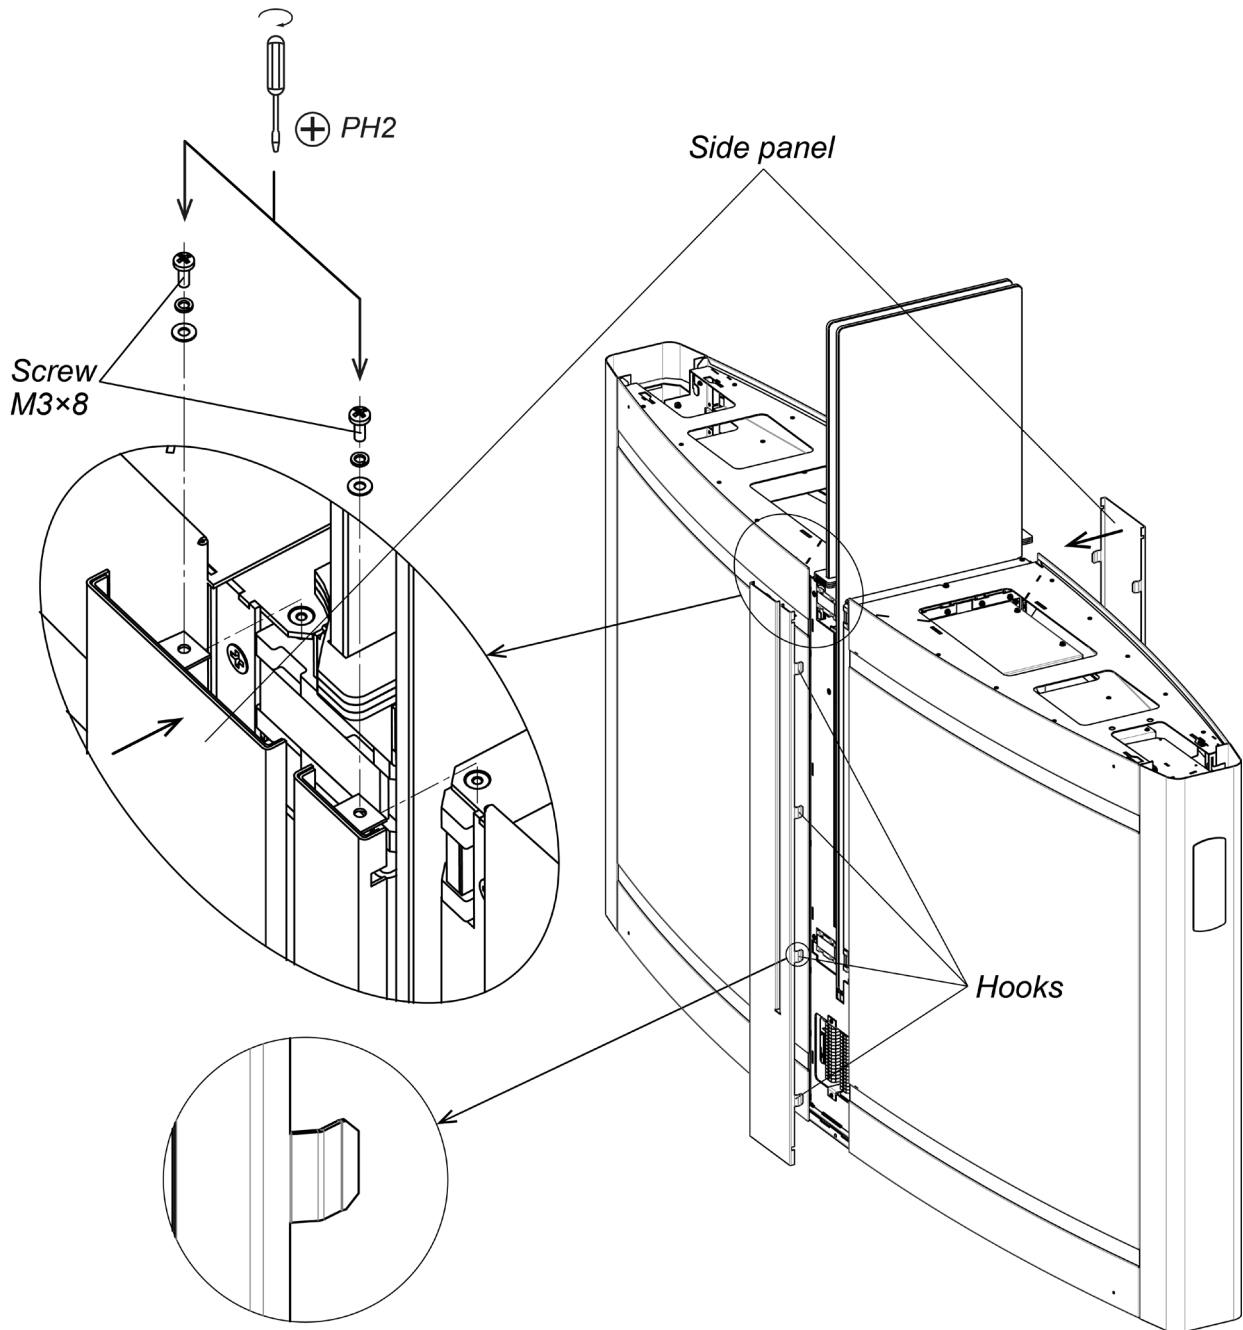

Figure 25. Installation of the side panels
- Install the side panels (6) (see sect. 8.7.7, Fig. 25).
The side panels are fixed to the sections by means of spring hooks; the inner panel is additionally fixed to the housing by two M3×8 screws with washers (installed by default, see Fig. 25). Align the spring hooks on the panel into the corresponding slots of the section housing and carefully mount the panel into its location until it stops. Check whether the hooks entered the slots around the perimeter of the panel.